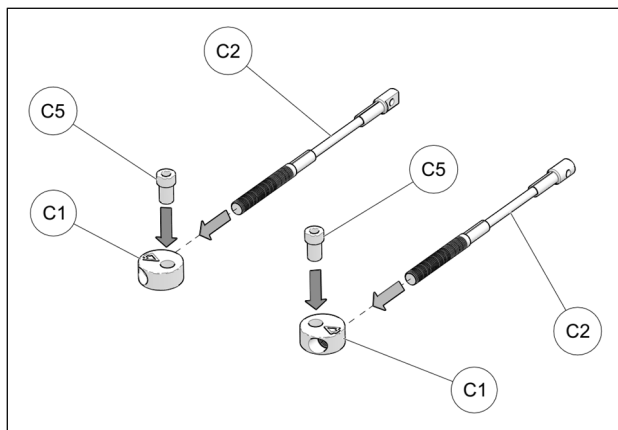

Fig. 15
10. Assemble steering limiter cables (C2), aluminum disks (C1) and step spacers (C5) as shown on Fig. 15